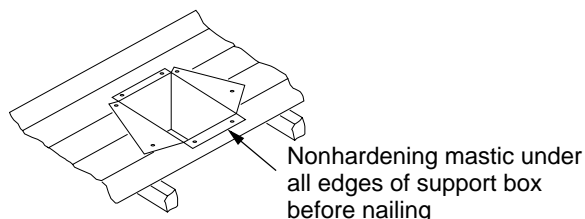

Figure 35 - Installed Cathedral Ceiling Support Box
- Using tin snips, cut the support box from the top corners down to the roofline and fold the resulting flaps over the roof sheathing (see Figure 35). Apply a bead of nonhardening mastic around the top edges of the support box to make a seal between the box and the roof. Nail in place with roofing nails. Remove any combustible material that might be inside of the support box.